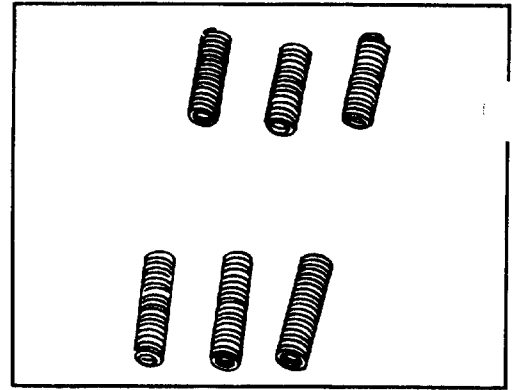

FIGURE 14.
- 15. Inspect the springs (14), for bent or distorted coils. If a spring is broken or deformed, all six springs in the unit must be replaced. See figure 14.